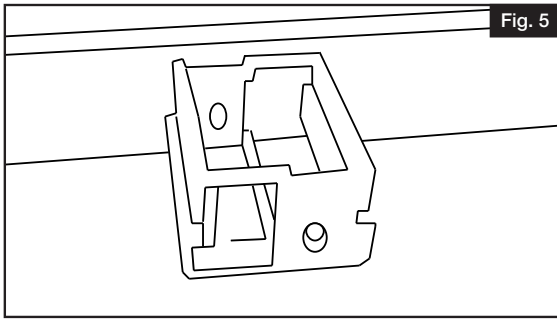

Fig. 5
- If installing a 10' kit, locate and mark the center point on the underside (unrouted side) of the bottom rail. Attach the crush block to the bottom rail as shown below (Fig. 5) using supplied set screw.
Cut railing to desired length. Place bracket on each end of top and bottom rails (Fig. 5).